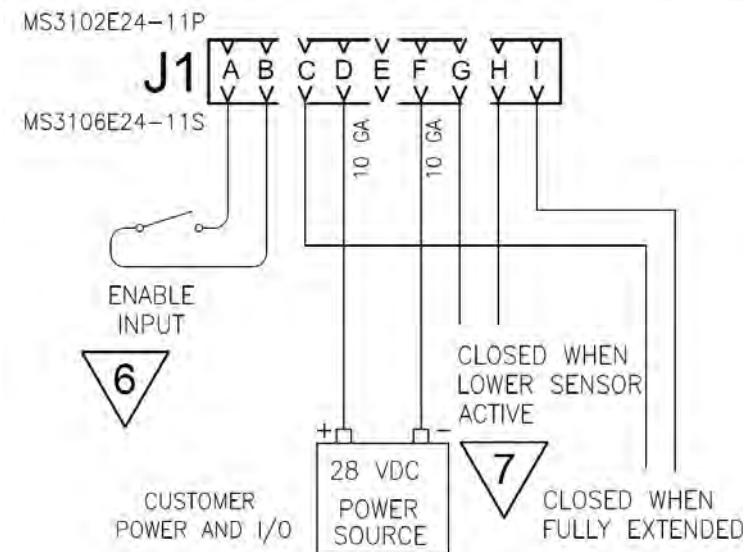

Figure 5-9 Power Cable Connector Wiring
1. Wire the Power Cable Connector and Emergency Stop Switch according to (Figure 5-9).